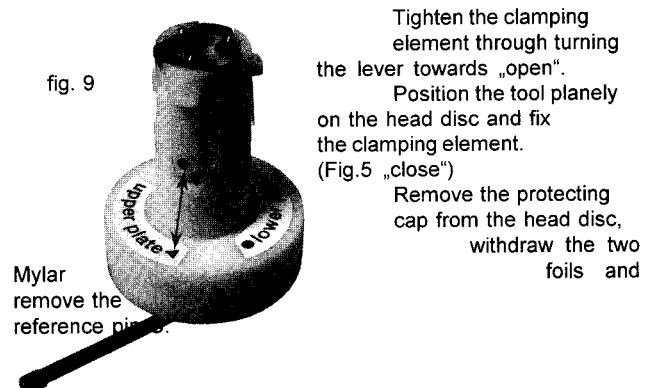

fig. 9
Change the tool to „upper clamping element” and position the clamping element exactly. (Fig. 9)
Compress the two snap hooks by means of a pair of tweezers (Fig. 9)and remove the roller assy (A) from the plate (B).